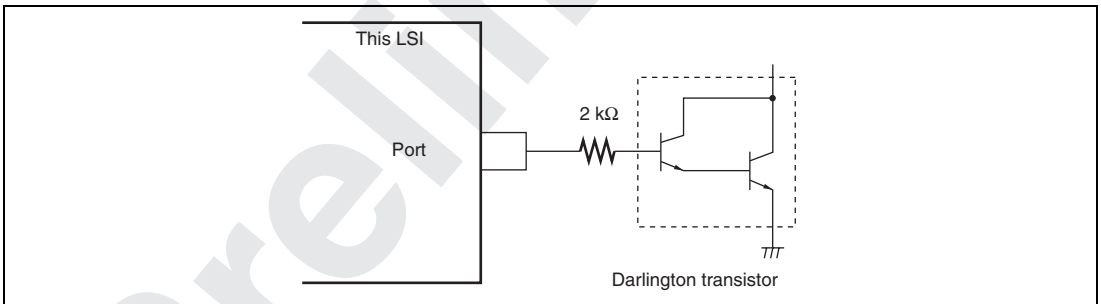

Figure 26.1 Darlington Transistor Drive Circuit (Example)
- When driving a Darlington transistor or LED, always insert a current-limiting resistor in the output line, as show in figures 26.1 and 26.2.